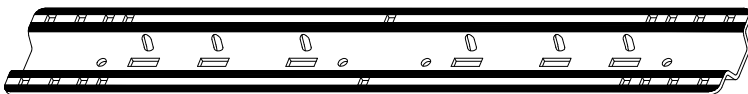

Figure A1: Polypropylene tape application.
- **Mounting Rails:** Apply four strips along the bottom of the entire length of both rails. Take care not to cover any of the holes, see Figure A1.